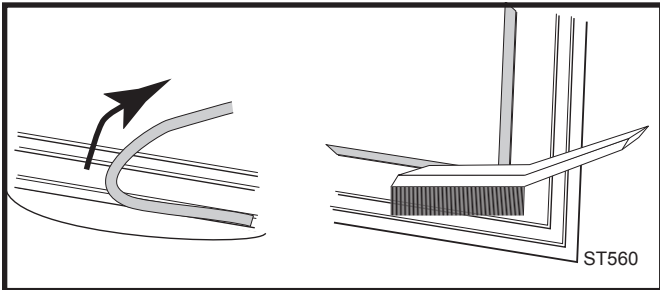

Fig. 29 Remove gasket then clean channel with wire brush.
2. Use a wire brush or a screwdriver to clean the channel of any remaining cement or bits of gasket. Remove stubborn deposits of cement with a cold chisel if necessary. (Fig. 29)